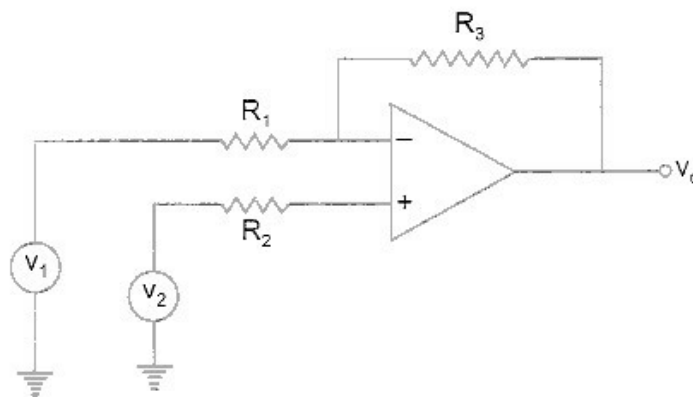

Fig. P. 2.10
2.10. Derive the expression for the output voltage v_o for the circuit shown in Fig. P. 2.10.